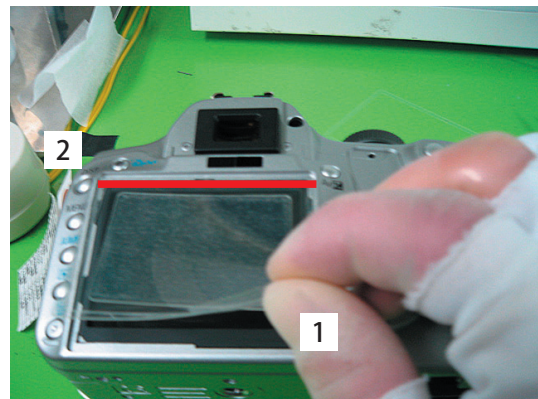

Fig. 050
(2) Peel off the backing sheet of the double-sided tape for the TFT display window and apply the tape according to the red line as shown in Fig. 050.
(3) Hold the edge of the double-sided tape for the TFT display window and remove the covering sheet.